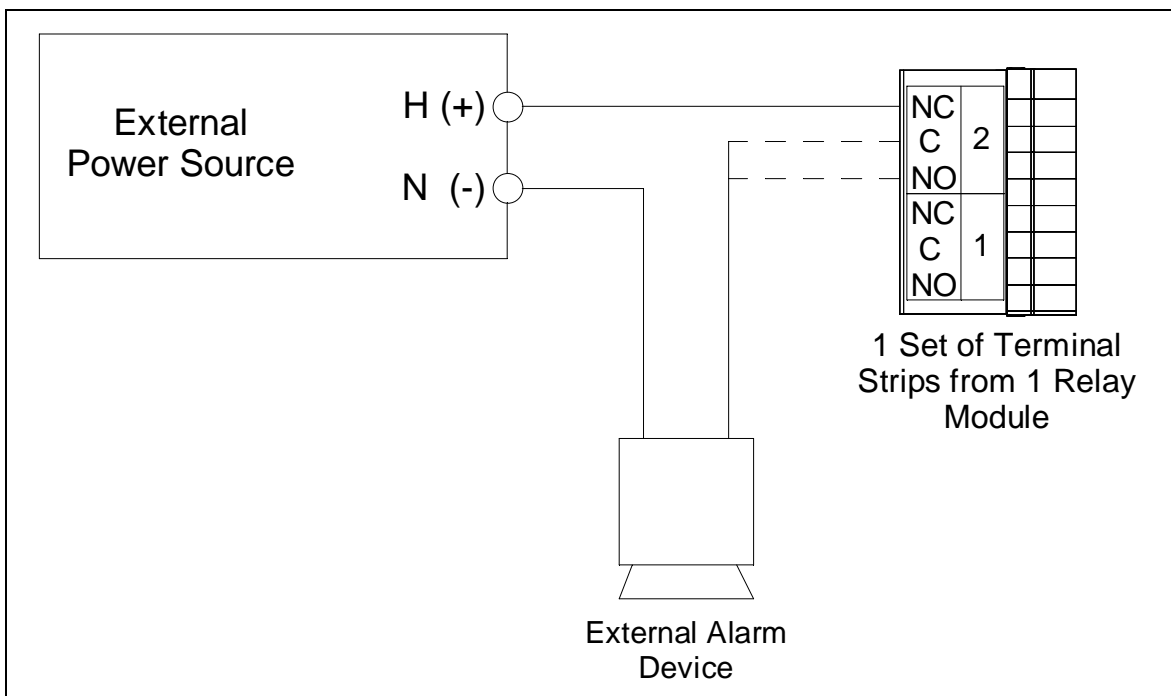

Figure 24: Wiring to the Card Relays
6. Connect the leads from the external alarm device and an external power source to the selected channel alarm or common/channel alarm relay contact terminals as shown in Figure 24.